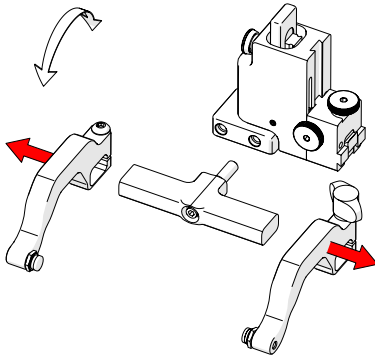

Fig. 180 - Remove probe holder arms
3. Loosen the arm clamp screw and probe holder arm adjustment knob allowing the removal of the probe holder arms (*Fig. 180*).